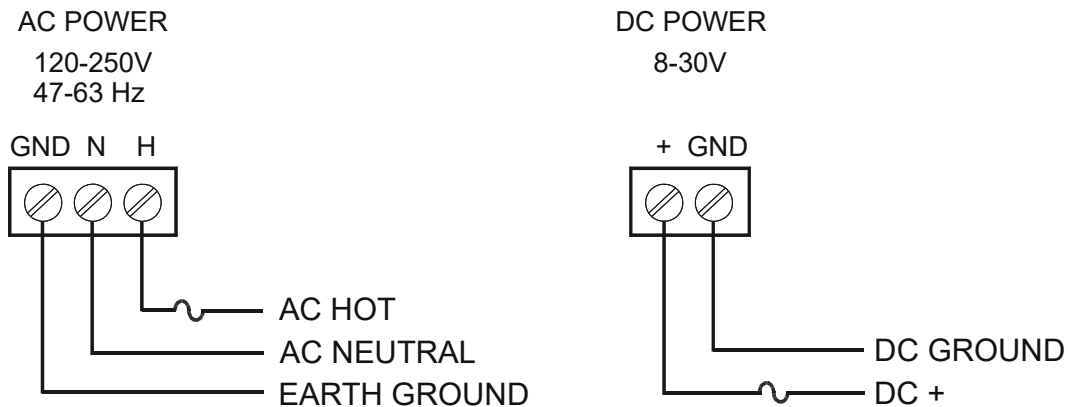

Figure 3. Power Connections
- Use three-terminal power connector as shown in **Figure 3**.
- Use two-terminal power connector as shown in **Figure 3**.